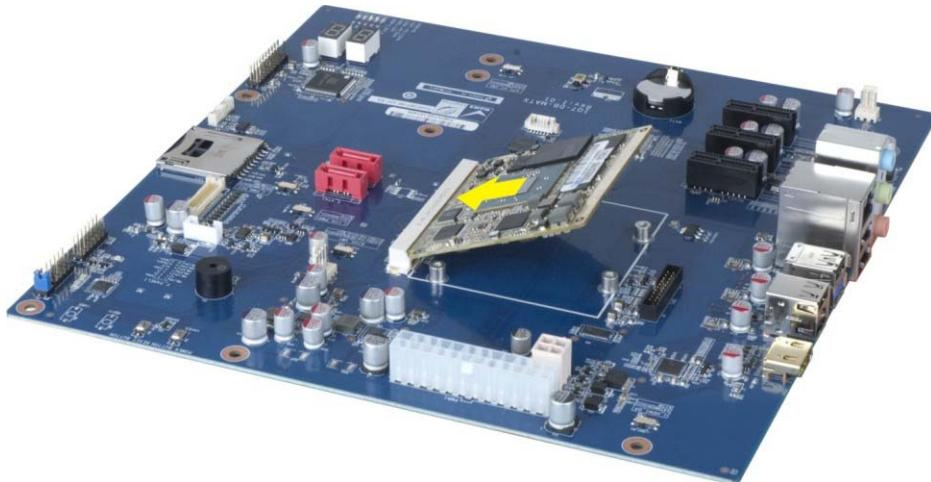

Figure 3-2: Connect the Qseven Connectors
Step 1: Align the Qseven connector on the edge of the iQ7-BT with the corresponding socket on the baseboard. Slide the iQ7-BT into the socket at an angle of about 20°. (Figure 3-2).